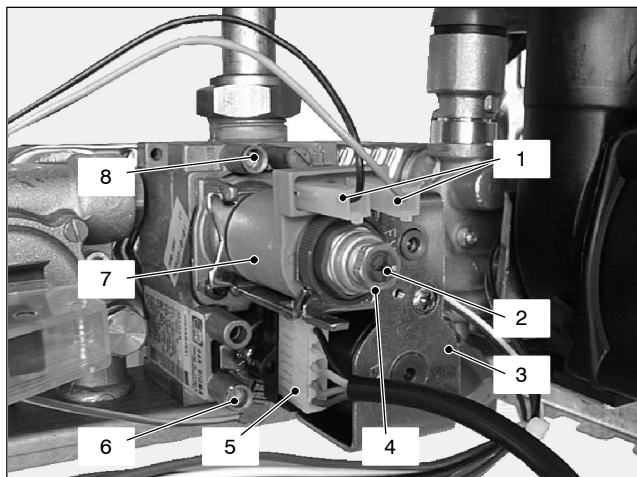

Fig. 42
10.2 Nomenclature of the parts (Fig. 42)
- 2 Open the gas valve inlet pressure test point (6 in Fig. 42) at the valve input, connect a suitable pressure gauge and check the gas pressure of the supply network.
- 4 Open the gas valve outlet pressure test point (8 in Fig. 42) and connect the gauge;
- 7 Rotate the maximum gas pressure adjustment (4 in Fig. 42) until you obtain the required pressure (by rotating clockwise the pressure increases).
- 8 Disconnect one of the two connectors (1 in Fig. 42) or, alternatively, remove the service panel as explained in the section 2.3 of this manual and set the dip–switch selector 1 (see section 9.5) to the OFF position.
- 9 Rotate the minimum gas pressure adjustment (2 in Fig. 42) until you obtain the required pressure (by rotating clockwise the pressure increases).